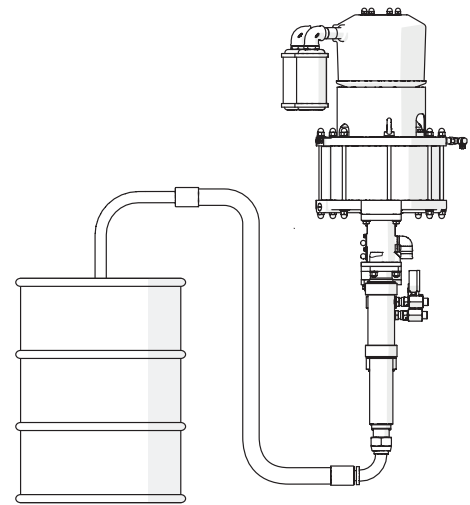

Fig. 35: Material supply with suction line
- via suction lines (see Fig. 35),